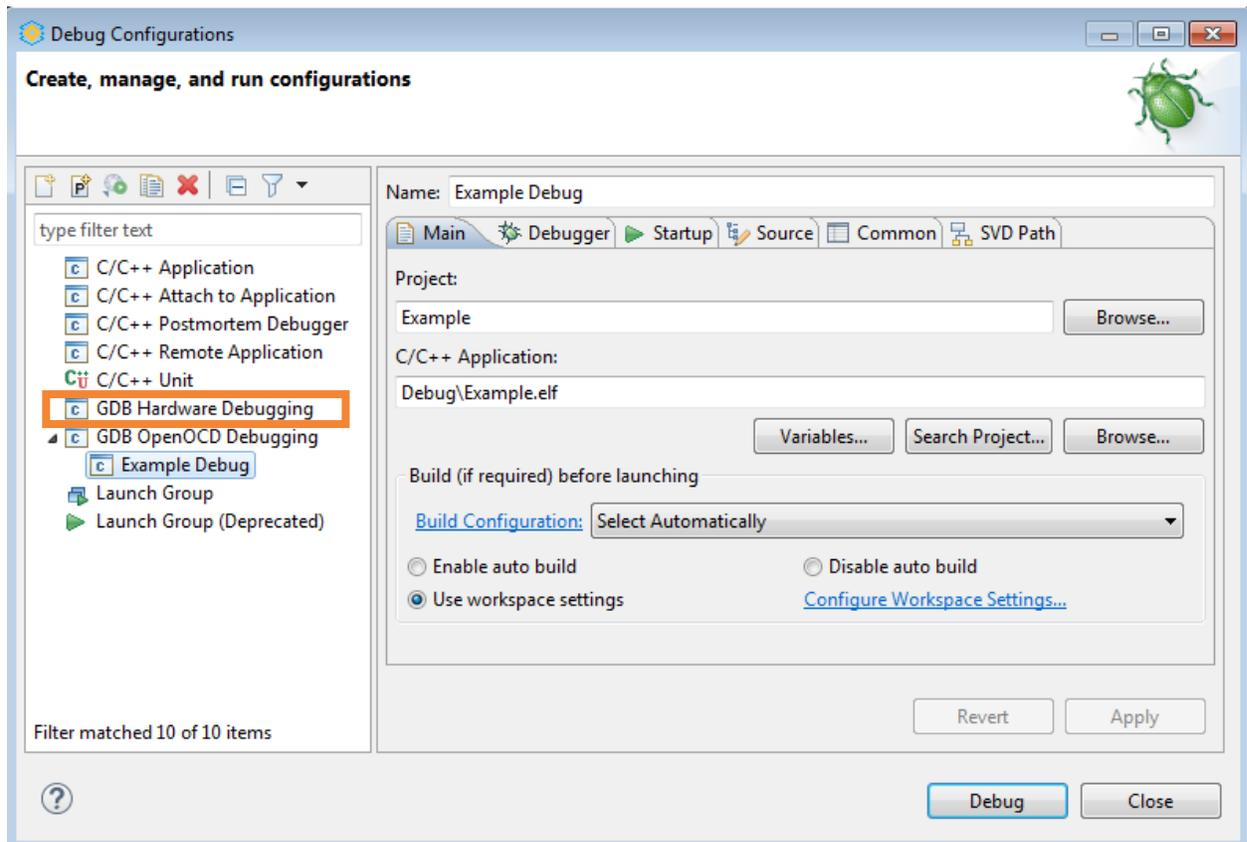

Figure 3.24. Debug Configurations Page
The **Debug Configurations** dialog opens (Figure 3.24).
- Click the **Debug** button (Figure 3.24).